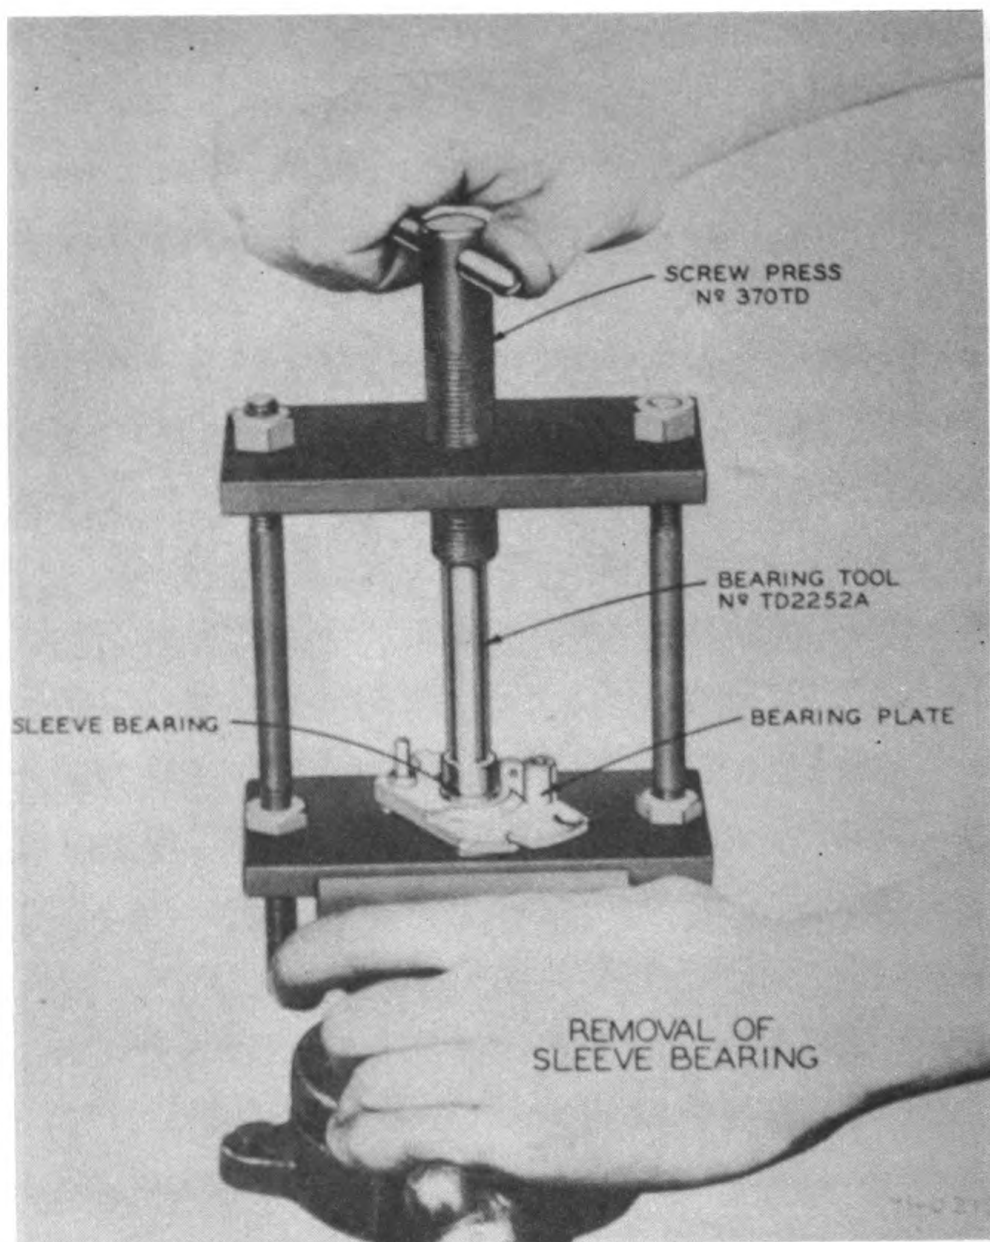

Fig. 136
**REPLACEMENT OF SLEEVE BEARING**—The end cap cover must first be removed from the magneto by taking out the two screws which hold it to the distributor end cap. The distributor rotor may now be pulled off the end of the rotor shaft, after which the distributor end cap can be separated from the frame by removing the four screws. The terminal screw of the breaker point assembly should first be removed in order to free the condenser, coil and switch lead wires, as well as permitting the removal of the breaker arm. The condenser can now be dismounted from the bearing plate by taking out its mounting screw, and other parts such as the cam felt wick and stationary point bracket removed by similar operations. The four screws which hold the bearing plate in the frame may now be withdrawn, and the plate removed from the magneto. Place the bearing plate in the small screw press 370TD as shown in (Fig. 136). Line up bearing tool TD2252A so that pressure can be applied perpendicularly to the plate, and so that the hole in the lower plate of the press provides clearance for the tool and the bearing as they are pushed through the plate. To remove the sleeve bearing from the plate, it is necessary only to press the tool TD2252A into the bearing and through the plate until the bearing drops out on the opposite side. To replace the bearing, the bearing should first be pushed on the end of the tool TD2252A and then into the plate until flush with the plate's surface. It should be noted that the bearing plate should be thoroughly cleaned with gasoline before inserting a new sleeve bearing, with a special effort made to remove any old grease remaining in the sleeve bearing grease reservoir which is in the form of an annular groove inside the bearing recess. Before inserting a new bearing, fill this reservoir with grease; during operation this grease soaks into the porous Oilite bronze of the bearing to replenish lubricant lost. Before reassembling the plate into the magneto its surface should be wiped entirely free of the excess grease.